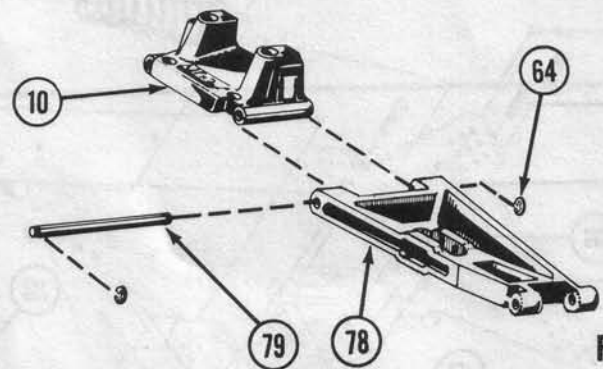

FIG. 29
5. Attach A-arms (78) to front bulkhead (10) with shock mountings forward using 1/8" x 1.650 hinge pins (79). Secure the pins (79) with two 1/8" E-clips (64). Fig. 29.